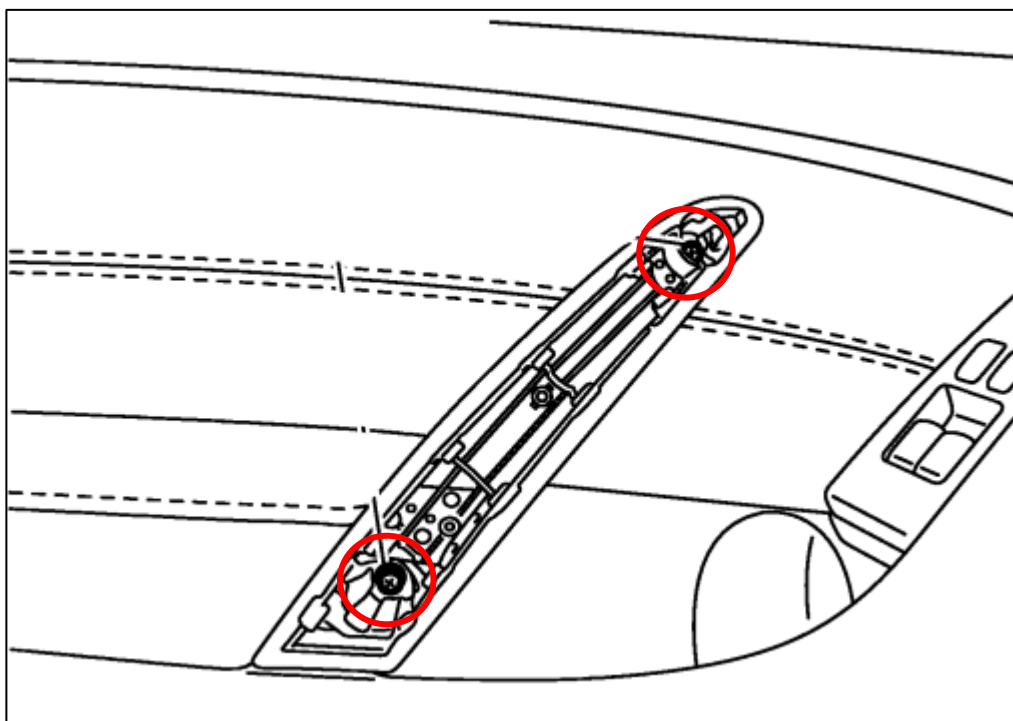

Figure 49
6. Remove the (2) two 10mm Bolts that are behind the Trim Piece. *Figure 49.*